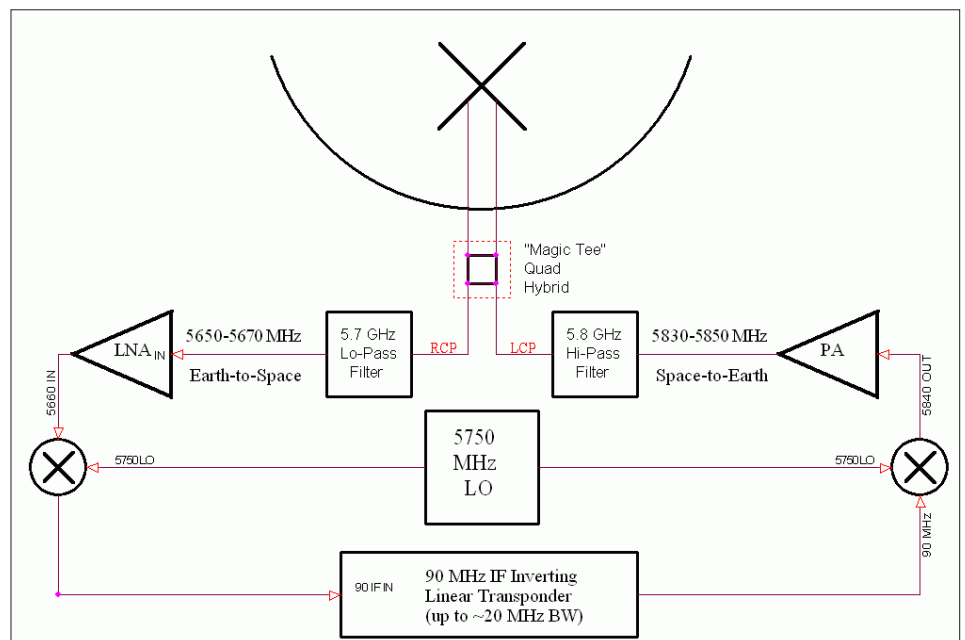
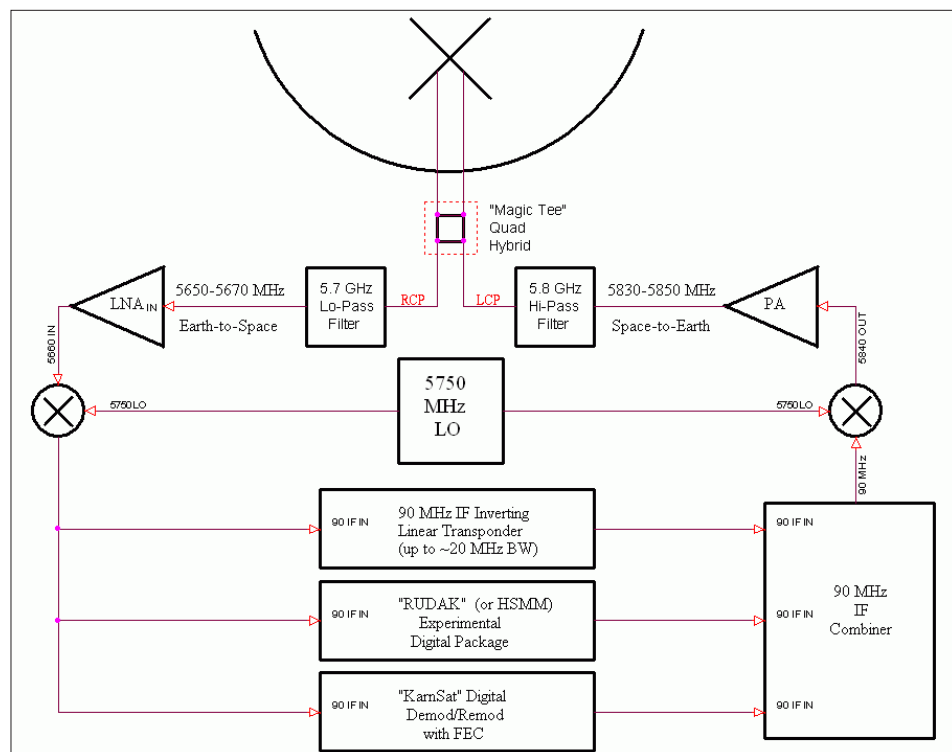

Figure 2
Figure 4
In Figure 2, I show a simplified block diagram of a possible “C-C Rider” transponder. One thing to note is that the design uses a **SINGLE** local oscillator at 5750 MHz; this frequency is midway between the uplink and downlink bands (separated by 180 MHz), and results in a 90 MHz IF. Note that this configuration has the LO above the receive passband, and below the transmit passband to create an inverting transponder. This has the interesting property that Doppler offsets are nearly cancelled – I say “nearly” because the Doppler on the uplink and downlink happen at frequencies that differ by 180 MHz. The net Doppler effects are the same as they would have been if the satellite were to operate at 180 MHz. Imagine – a microwave satellite with Doppler rates only one-third
I envision that the same antenna will be shared by the uplink and downlink. Figure 2 showed how this might be done with a dish antenna. The inherent problem with this scheme is that the antenna's mechanical structure must be mechanically stabilized to levels of about 1/4 of the beamwidth. In the case of a LEO ground station, and for both the spacecraft and ground stations for HEO, antenna gain in the 20-25 dBiC range ends
So far I have not discussed any details of the inner transponder "guts". Figure 2 shows only a basic linear transponder. Certainly this could be made to work, and we could have a microwave replacement for Mode-B (or Mode-L/S). The interesting numerology of the two C-band channels causing Doppler to (nearly) cancel is neat. But we must ask if there might be alternate uses that make sense.
Various AMSAT people have thought a lot about these ideas and have concluded that the answer is YES. We could augment Eagle to include some of the needed technologies. Let's morph Figure 2 into Figure 4 to see what the spacecraft might look like¹⁸. Here we see that the IF portion of C-C Rider has been replaced by three packages: a linear transponder, a "KarnSat" digital transponder and a 3rd package called (for historical reasons) RUDAK.
If you compare Figure 4 and 5, you will see few differences, except that the transmit and receive roles are reversed. Transmit filters become receive filters, up converters become down converters, etc. I envision that the microwave part of C-C Rider (inside the dashed lines in both Figures 4 and 5) would be constructed on 2-3 microstrip boards and there is little difference between the user terminal and the spacecraft - we can get double duty from a good RF design. This would also be possible with the phased-array alternative.
18. Of course, the antenna might be a phased array instead of a dish following the ideas in Figure 4.